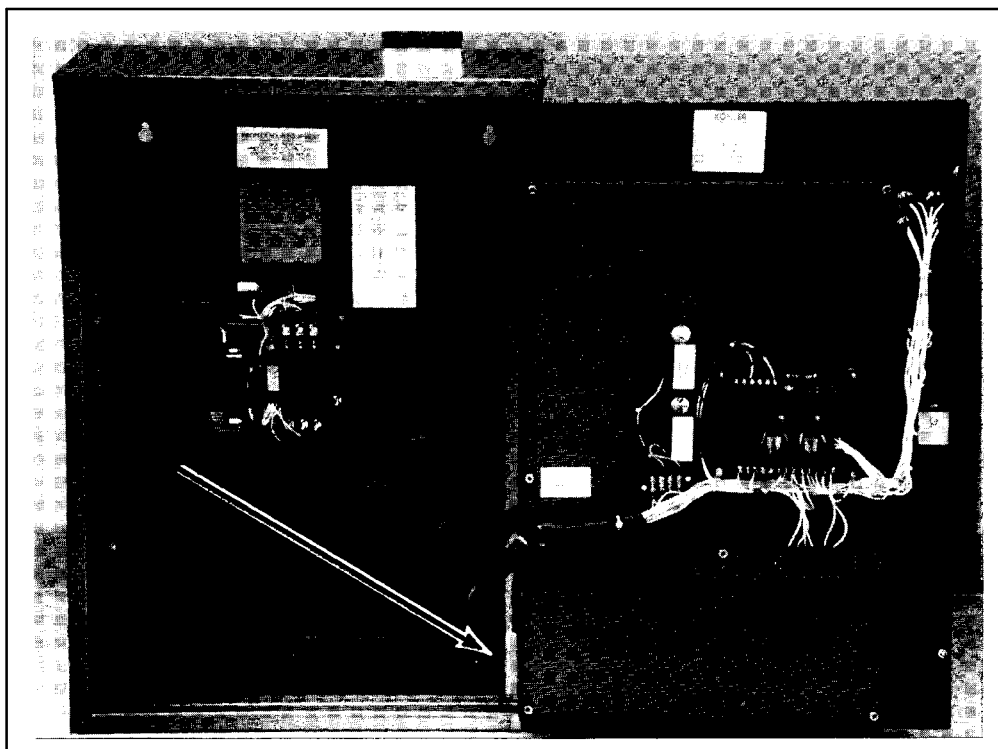

Figure 2. In-Line Disconnect Plug
All internal connections are made at the factory. The transfer switch and the control panel each have their own wire harness. The two harnesses are to be joined together by the in-line disconnect plug. Plug halves are separated for shipment. The plug must be engaged after installation is completed. See Figure 2.
3. Separate the contactor control in-line disconnect plugs if you have not already done so. See Figure 2.